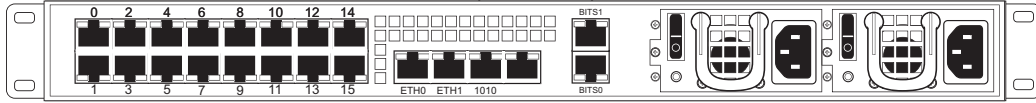

Figure 1.3 7800-TMS
- Based upon the configuration of your 7800 series gateway, the number of 7800-TMS media switch(es) may range from zero to two. See figure 1.3 on page 4.
- One 7800-TMS unit (TMG7800-TMS or TMGIP7800-TMS). See figure 1.3 on page 4.